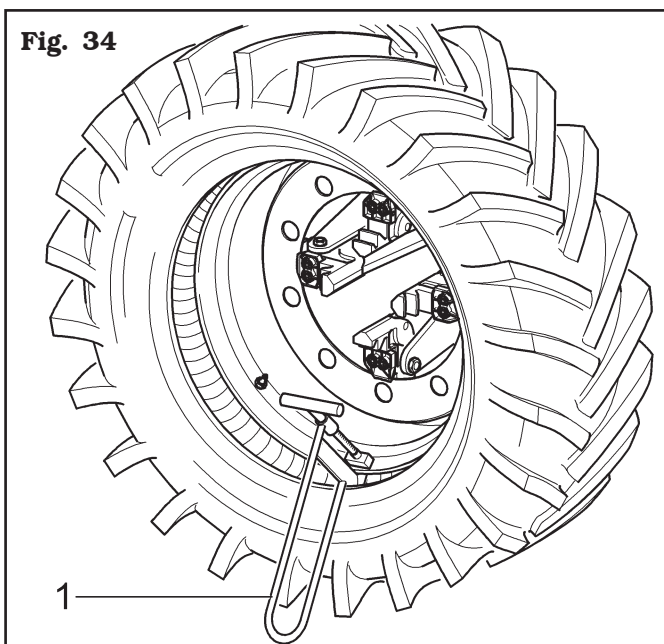

Fig. 34
- Lift the mandrel and mount the grippers (Fig. 34 ref. 1) on the rim outside the second bead at about 20 cm from the inflating valve on the right.
- Turn the mandrel clockwise until grippers (Fig. 34 ref. 1) are positioned at 9 o'clock.